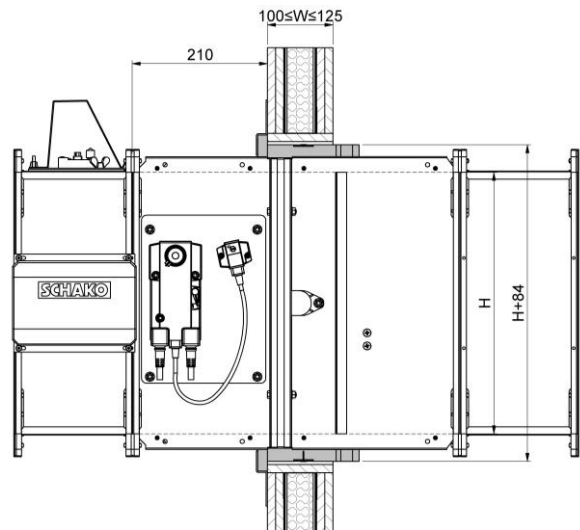

Figure 24: Dry installation in lightweight partition wall (F90) $W \leq 125$, with ER-A1 installation frame
- Construct a circumferential reveal (pos. 20) with 12.5 mm or 2 x 12.5 mm plasterboards and screw them centrally to the circumferential metal profile frame (pos. 33.2 - fastening: e.g. drywall screws \varnothing 3.5 x 25 mm or \varnothing 3.5 x 45 mm; screw distance \leq 250 mm, but at least 2 screws per side).
- Insert the BKA-Ü into the wall recess (dimensions: B+93⁺² mm x H+93⁺² mm), so that the stop of the installation frame type ER-A1 contacts the wall (operating side – observe the installation dimensions of 210 mm up to the front edge of the wall, see Figure 24). Average out the circumferential annular gap evenly between the wall recess and the installation frame type ER-A1. Mounting of BKA-Ü with the help of mounting suspensions etc.
- BKA-Ü is fastened on all sides to the supporting structure (exchange profiles – pos. 10) using the appropriate number of fixing lugs (pos. 18; see table 5). The fixing lugs are fastened to the supporting structure using 2 drywall screws each (pos. 19 e.g. \varnothing 3.5x35 mm; adjust screw length to panelling thickness).